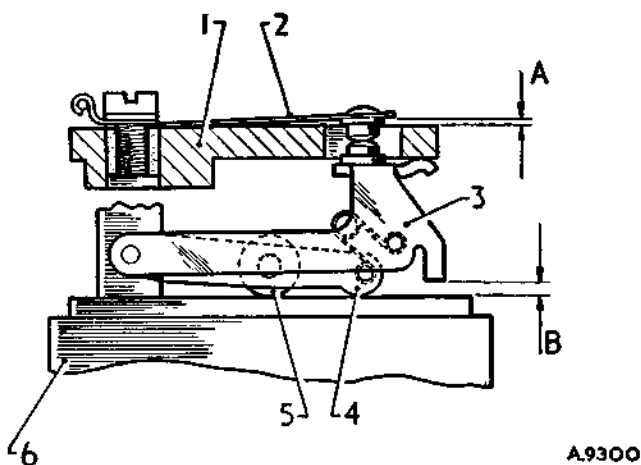

Fig. D.5
the pedestal (A) (Fig. D.5) with a feeler gauge, bending the stop finger beneath the pedestal, if necessary, to obtain a lift of $.035 \pm .005$ in. ($.9 \pm .13$ mm.).
34. Check the gap between the rocker finger and coil housing (B) (Fig. D.5) with a feeler gauge, bending the stop finger, if necessary, to obtain a gap of $.070 \pm .005$ in. ($1.8 \pm .13$ mm.).